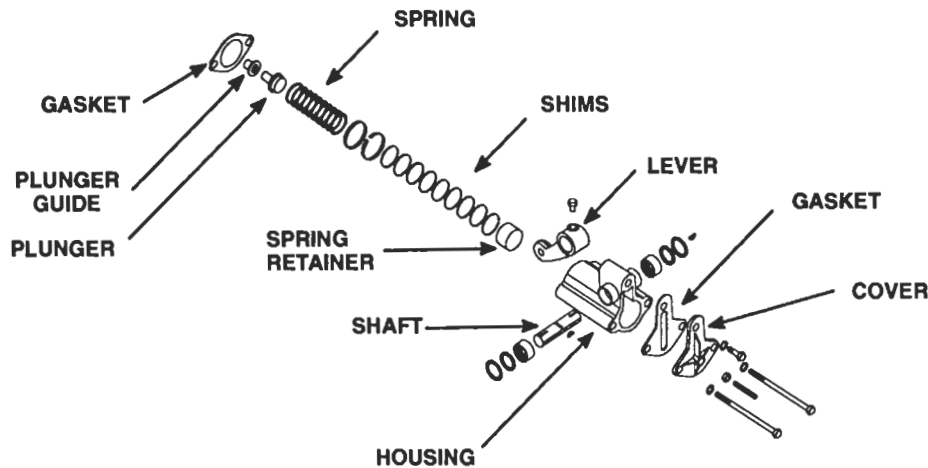

Figure 13. Variable Speed Spring Housing and Shaft Details and Relative Location of Parts
2. Install the needle bearing pilot rod J 9196-2 in the installer body J 9196-1 and secure it in place with the retaining screw (Figure 13.).